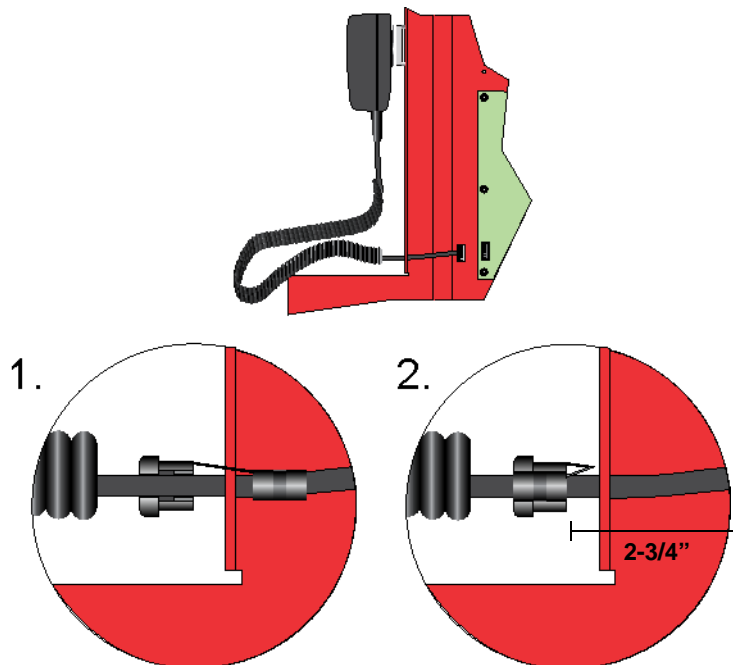

Figure 4.56 Installing Strain Relief Clip
- Attach strain relief clip to microphone cord. The strain relief clip should have about 2¾" of micro phone cord through it. See Figure 4.56.